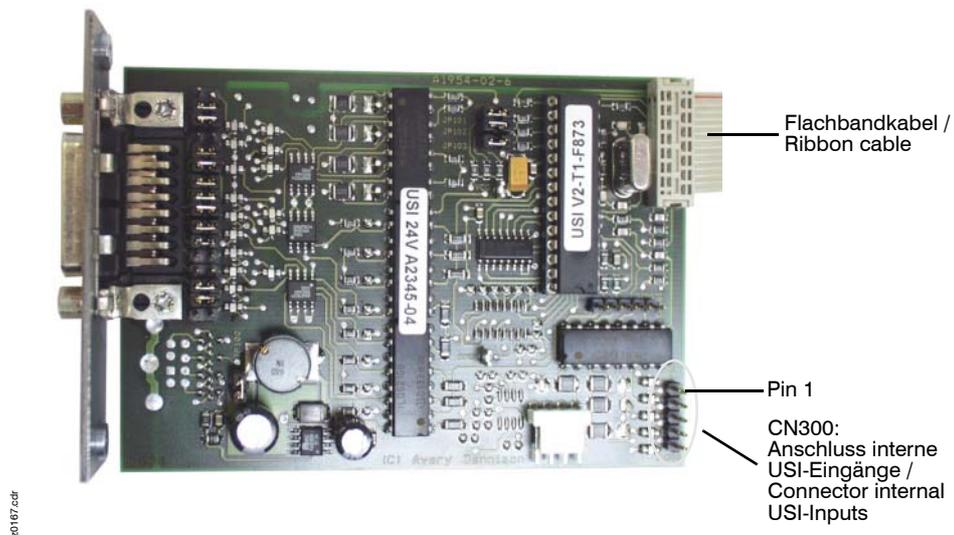

Fig. 15: Pin 1 is the first pin in direction of the ribbon cable; the writing CN300 Pin 1 can be found beside the pins on the USI board.
(see Fig. 14 and Fig. 15)
- Additionally, the internal USI-inputs can be simulated, if the 5-pin connector strip is plugged into CN300 on the USI board (see Fig. 15).